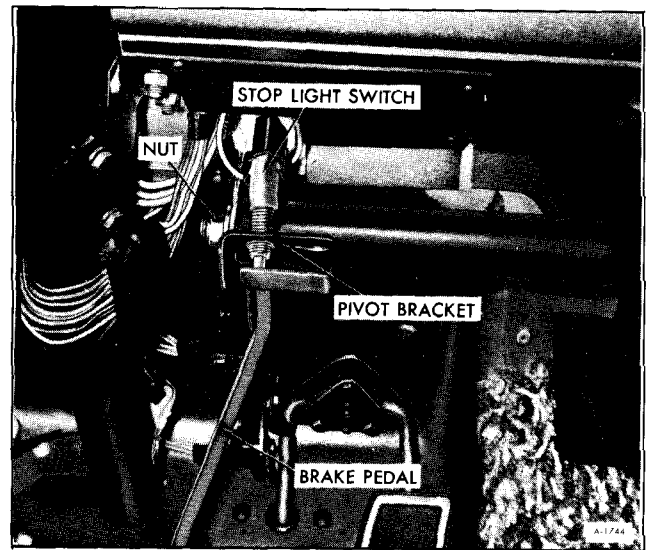

Figure 30—Brake Pedal Assembly (Left Side)
2. Remove stop light switch from top of brake pedal. If equipped with cruise control remove the switch next to the stop light switch (figure 30).